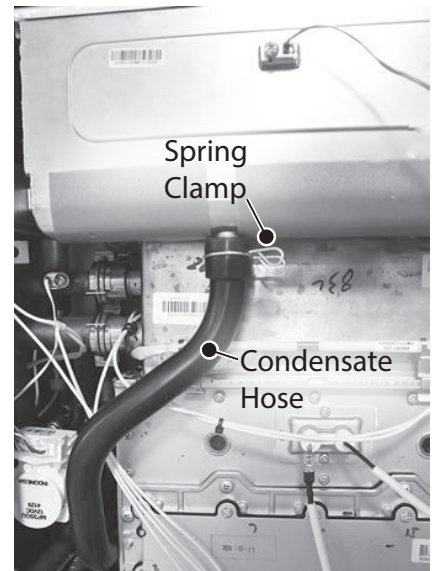

Figure 198 - Condensate hose removal
- 11 Disconnect the black hose from the top of the condensate trap and then from the front of the heat exchanger (HEX). Compress the spring clamp and pull it down along with the black hose. Place the spring clamp aside in a safe place for reinstallation. Dispose of condensate hose properly. See Figure 198.